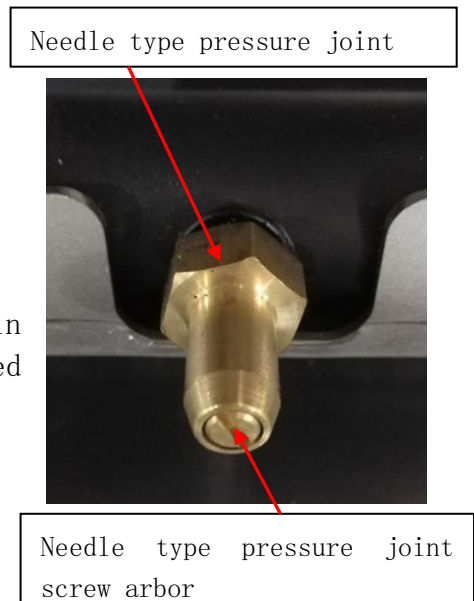

Fig.1
- Remove top panel, and needle type pressure joint screw arbor (Fig.1), then slip rubber tube of pressure gauge over needle type pressure joint;